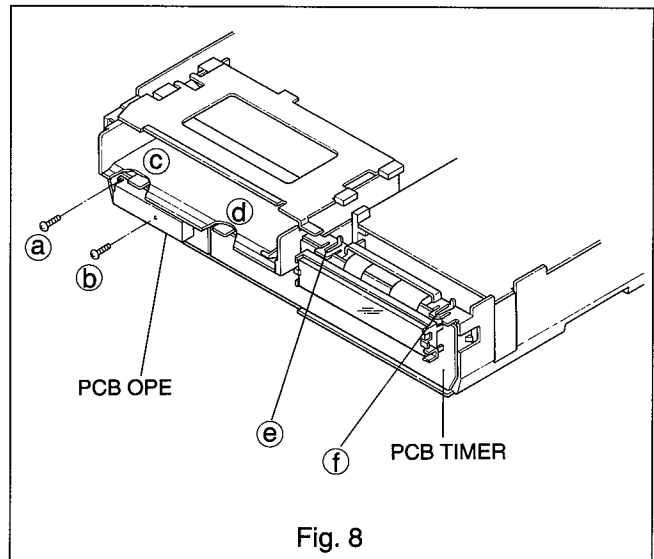

Fig. 8
- B. Remove the two screws (① , ②) and unfasten the four snaps (③ ~ ⑥) as shown in Fig. 8.